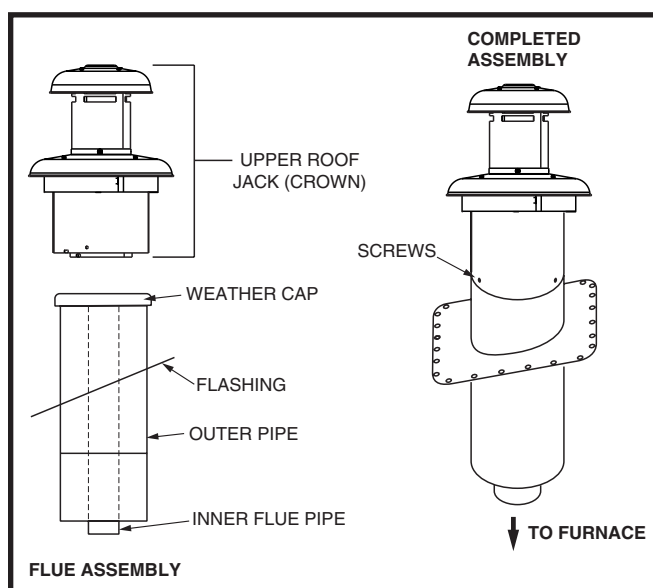

Figure 23. Roof Jack Crown
1. Transit-mode weather cap to be removed and upper roof jack crown installed. **Do not discard the screws.** See Figure 23.